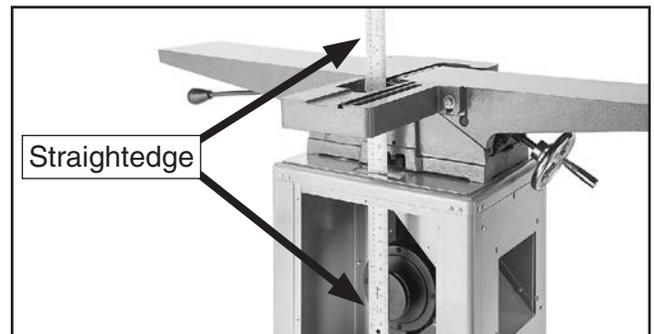

Figure 11. Example of checking pulley alignment.
6. Place straightedge against pulleys to check their alignment (see **Figures 11–12**).